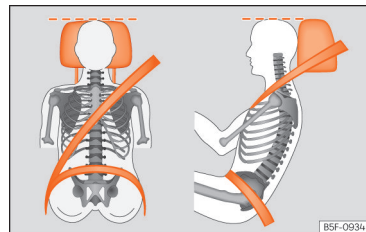

Fig. 16 Correct belt web and headrest positions
- Adjust the head restraint so that its upper edge is, as far as possible, at the same level as the top of your head, as close to eye level as possible¹⁾ »» page 85. Keep the back of your neck as close as possible to the headrest »» Fig. 16.
- Adjust the seat lengthwise so that you can fully step on the pedals with your knees slightly bent and there is a distance between the knee area and the instrument panel of at least 10 cm (4 inches) »» Fig. 16.